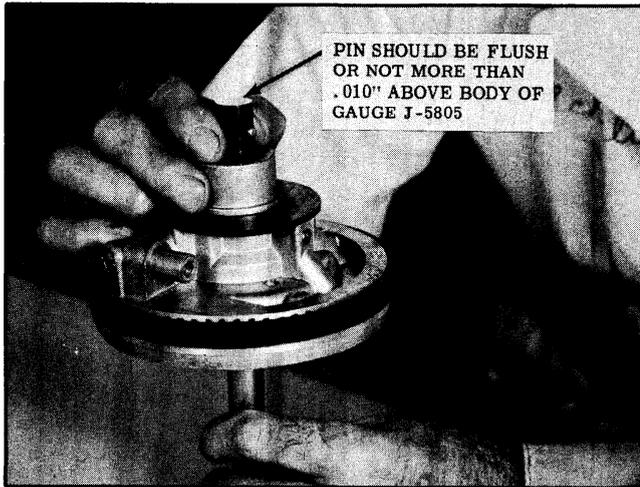

Fig. 7-34 Checking Pin Position of Gauge J-5805
- c. If the pin is flush with or less than .010" above the body, no further adjusting is required. (See Fig. 7-34)